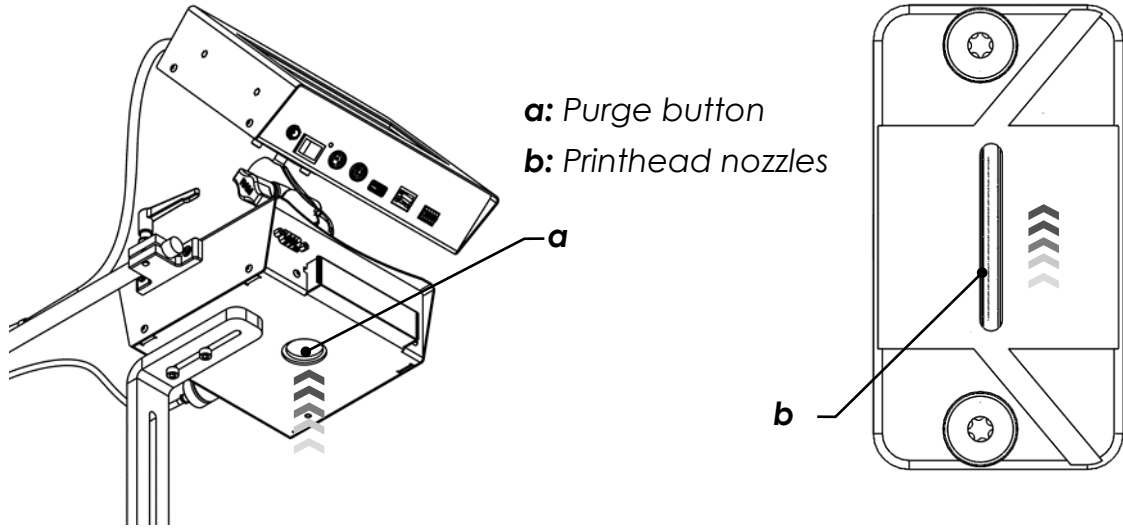

Figure 39
- Push purge button located on the bottom of the ink cartridge through the round opening located on the underside of the ink supply unit until ink flows from the print head nozzles (see Figure 39).